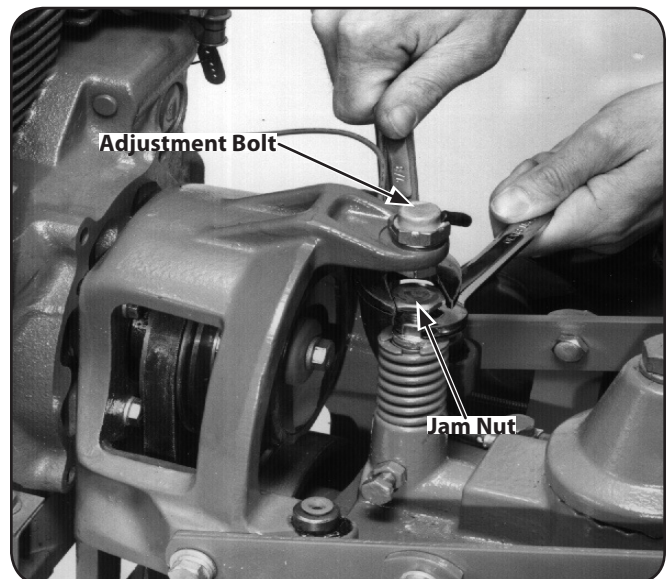

Figure 6-23
- Place a $\frac{7}{8}$ " wrench on the head of the reverse adjustment bolt and a $\frac{5}{16}$ " wrench on the jam nut below it. See Figure 6-23. Hold the bolt steady while loosening the jam nut three or four turns.
7. Check that the reverse disc is at least $\frac{3}{16}$ " away from the transmission drive pulley. Then hold the reverse adjustment bolt steady with one wrench while tightening the jam nut with a second wrench. See Figure 6-23.